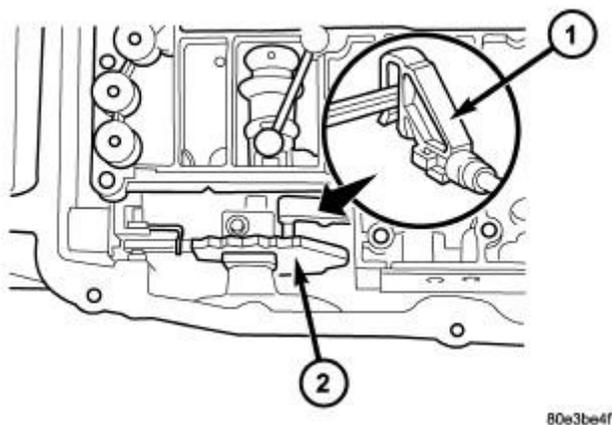

Fig. 266: Selector Valve & Detent Plate
2. Insert selector valve (1) in driver of detent plate (2). Refer to **Fig. 266**. When installing the electrohydraulic control module in the transmission housing, the plastic part of the selector valve (1) must engage in the driver of the detent plate (2).